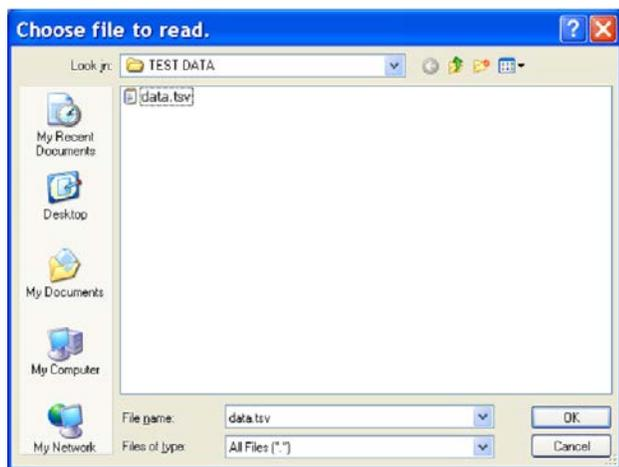

Figure 16. Load File Dialog Box: Loading Previously Captured Data or Example Files in .tsv Format
- **Load data:** load previously captured data or example files in .tsv (tab separated values) format for analysis (see Figure 16). (The default location for example files is C:\Program Files\Analog Devices\EVAL-AD7276_77_78SDZ.)